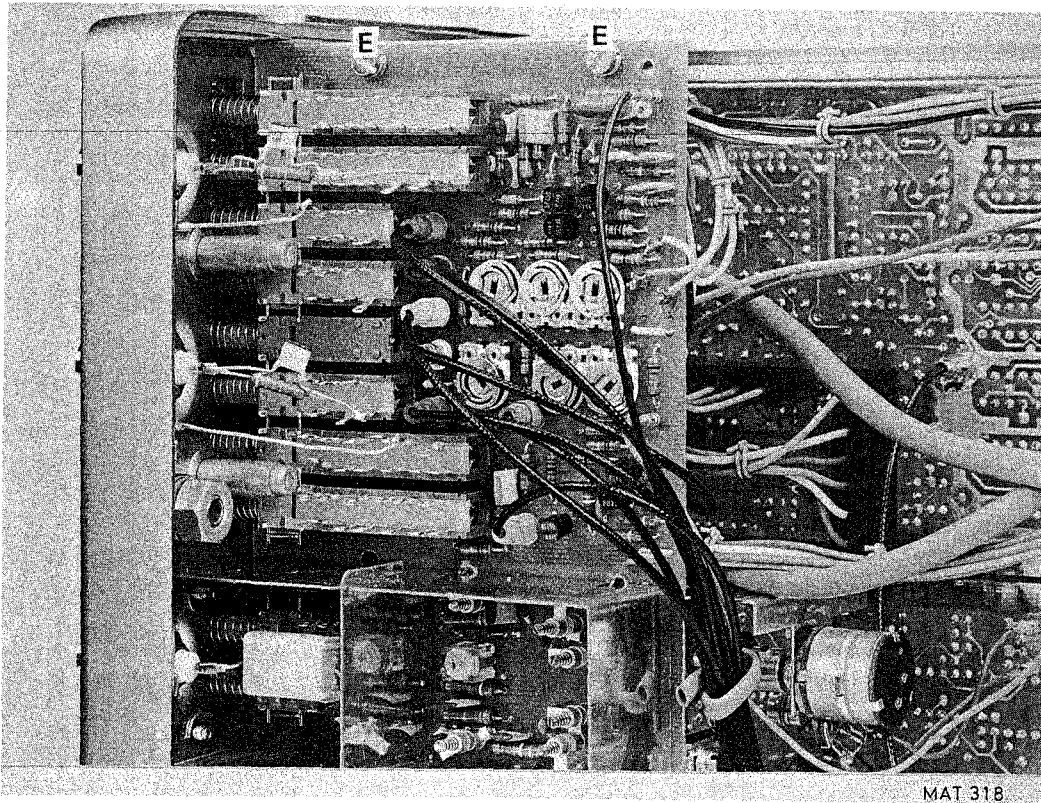

Fig. 6.7. Removing screws E
- Remove the two screws C (Fig. 6.7.)
- Remove the four hexagon screws D that secure the pushbutton switches to the front panel (Fig. 6.7.).
- Remove the two screws E that hold the attenuator to the frame bar (Fig. 6.7.).